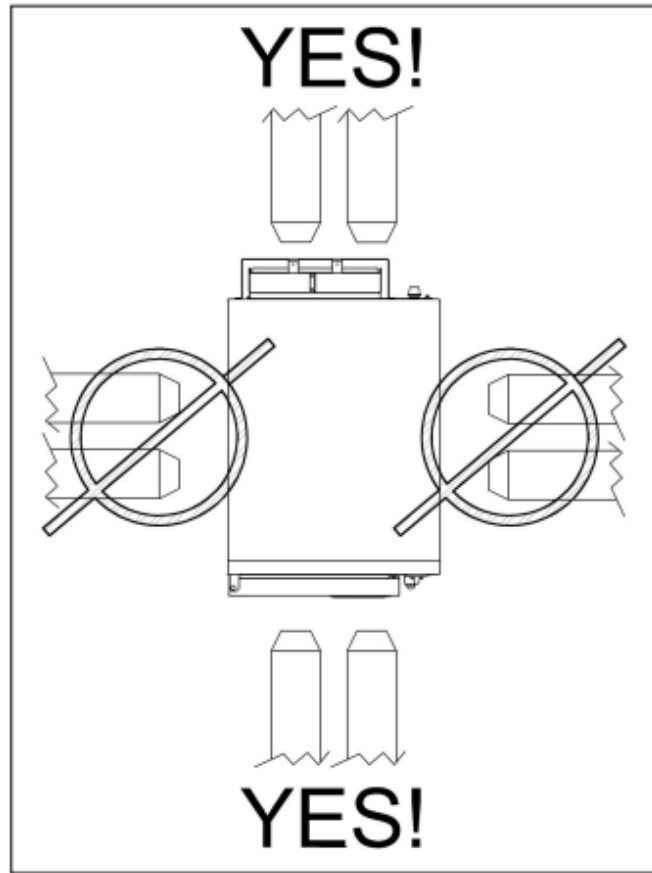

Figure 3-1 Do **NOT** Lift from Sides
- e) The appliance is now ready to be moved to its final location. Lift the appliance off the blocks and move it to its final location. Do **NOT** lift from sides. See Figure 3-1.